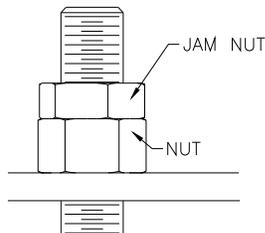

Fig 11 – Cable Jam Nut
- 23) Secure the cables to the top of the column with the nut and jam nut provided, **Fig 11**.